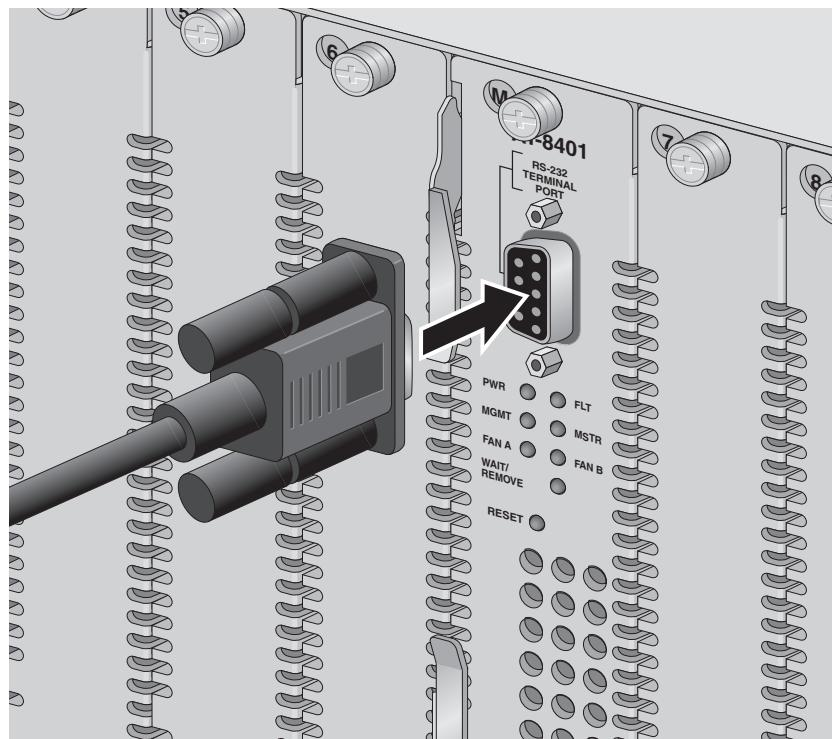

Figure 23 Connecting the RS-232 Cable
7. For local management of the chassis, attach one end of a RS-232 cable with a DB9 connector to the RS-232 port on the management card and the other end of the cable to a terminal or PC with a terminal emulator program. See Figure 23.